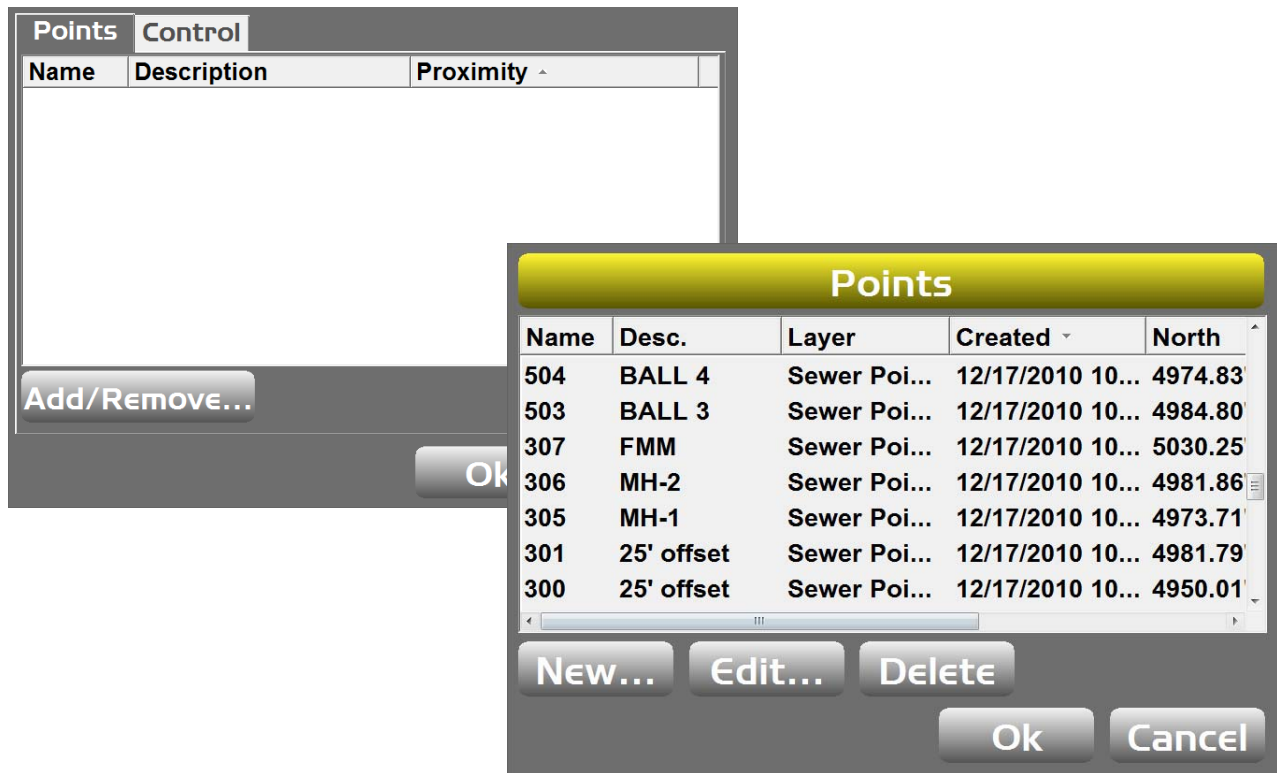

Figure 76: Add/Remove a Point
2. Tap **Add/Remove**. The **Points** screen appears (Figure 76).